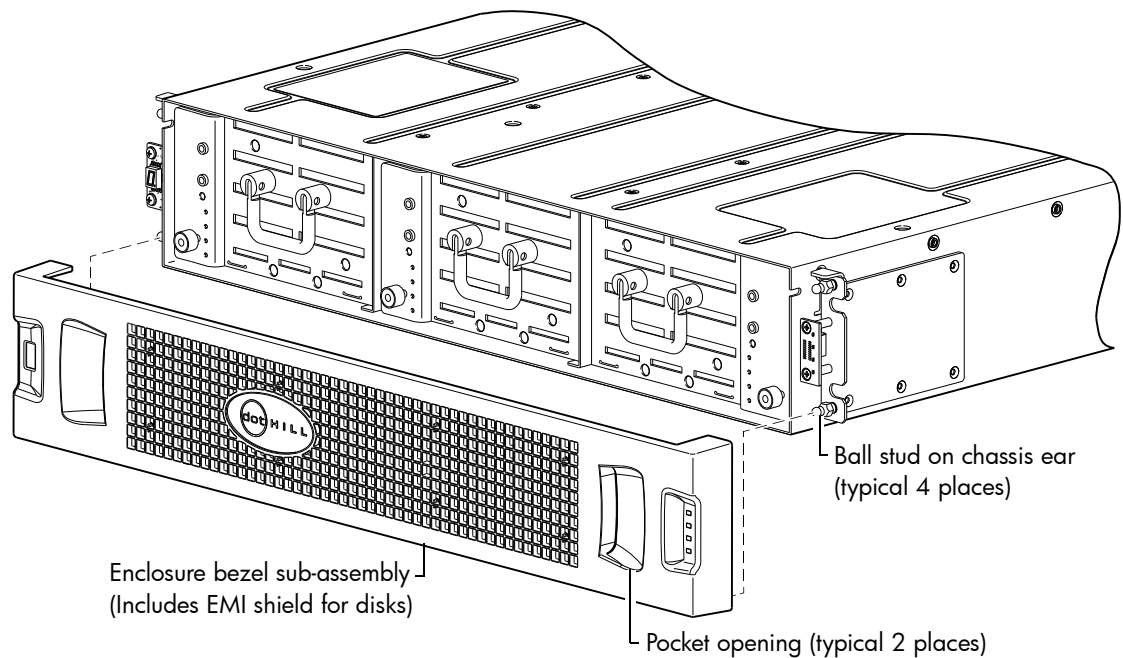

Figure 7 Partial assembly showing bezel alignment with 2U48 chassis
Figure 1 on page 14 through Figure 5 on page 16 illustrate 48-drive enclosure models. The 2U48 product models use an enclosure bezel during operation. The enclosure bezel is only partially shown in Figure 1. The enclosure bezel is shown in its entirety in Figure 7 on page 17 (removed) and in Figure 3 on page 15 (installed).
- Assembly — Figure 3, Figure 4 on page 16, and Figure 7 on page 17
The 48-drive 2U48 enclosure supports a bezel sub-assembly that attaches to the front of the chassis (see Figure 7 on page 17). The bezel—comprised of a vented cover attached to an EMI (Electromagnetic Interference) shield—is pre-assembled and packed with foam into a box included in the master shipping container.